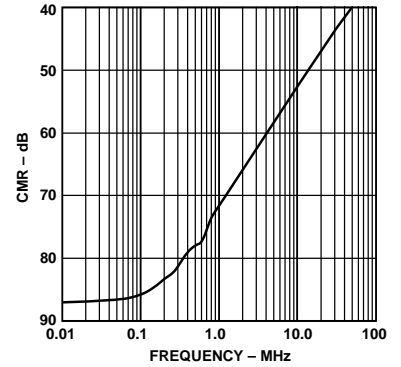

Figure 16. CMR vs. Input Frequency (Input Span = 2 V, VCM = 2.5 V)
Differential operation requires that VINA and VINB be simultaneously driven with two equal signals that are in and out of phase versions of the input signal. Differential operation of the AD9241 offers the following benefits: (1) Signal swings are smaller and therefore linearity requirements placed on the input signal source may be easier to achieve, (2) Signal swings are smaller and therefore may allow the use of op amps that may otherwise have been constrained by headroom limitations, (3) Differential operation minimizes even-order harmonic products and (4) Differential operation offers noise immunity based on the device's common-mode rejection as shown in Figure 16.